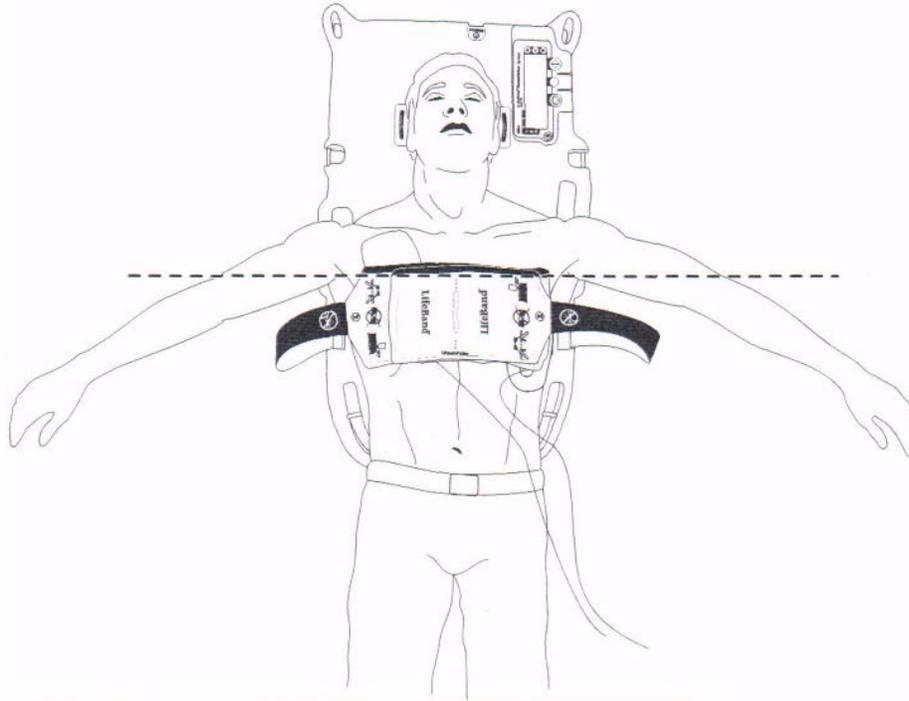

Figure 3-8 Fastening the LifeBand® Chest Bands
- c) Press the bands together to engage and secure the Velcro® fastener (see Figure 3-8). Caution: Make sure that the bands are *not* twisted before automatic compressions begin. Note: If the bands cannot be closed, use manual CPR.